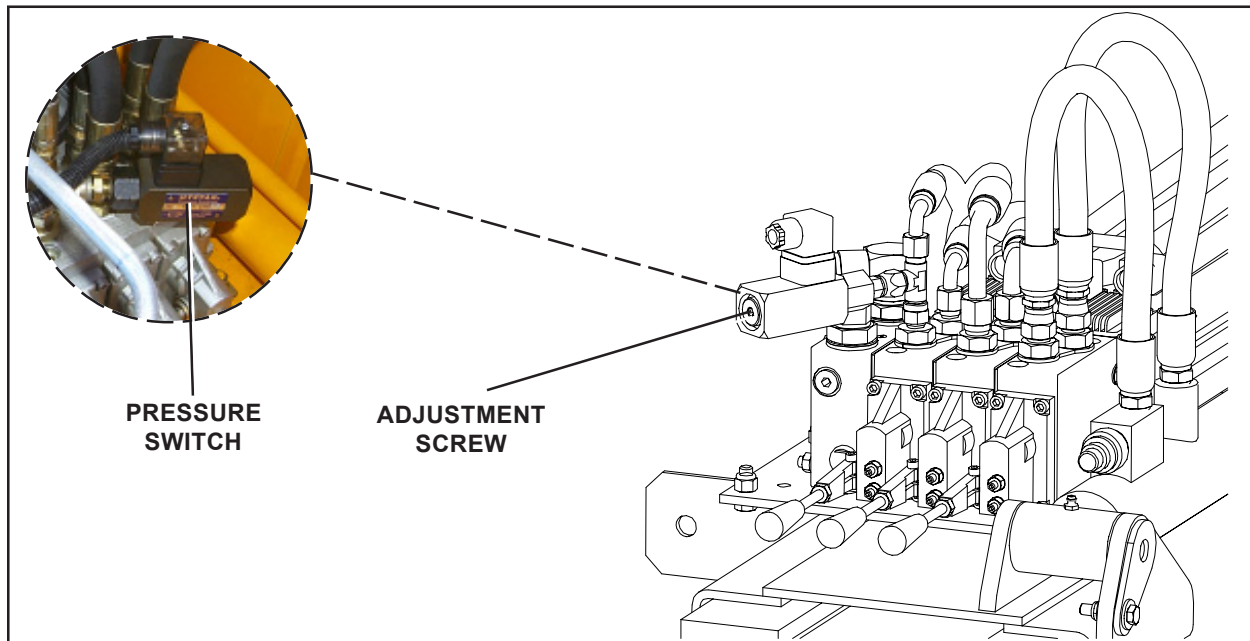

Figure 2.12
7. At the valve, loosen the pressure switch adjustment screw (Figure 2.12).